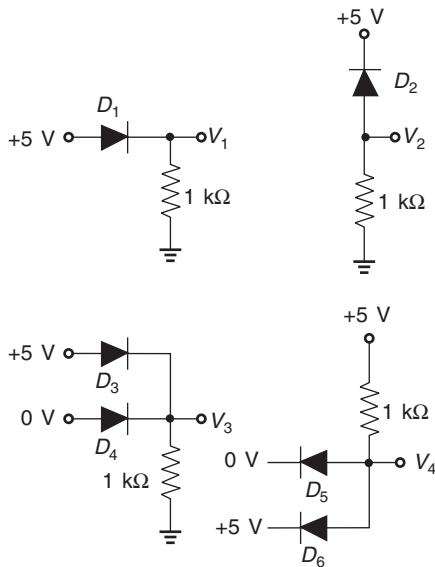

Fig. 7.27
7.23 Determine if the silicon diodes shown in the Fig. 7.27 are forward biased or reverse biased.
7.24 Determine V_1 , V_2 , V_3 , and V_4 (with respect to ground) for the circuits in Fig. 7.27.